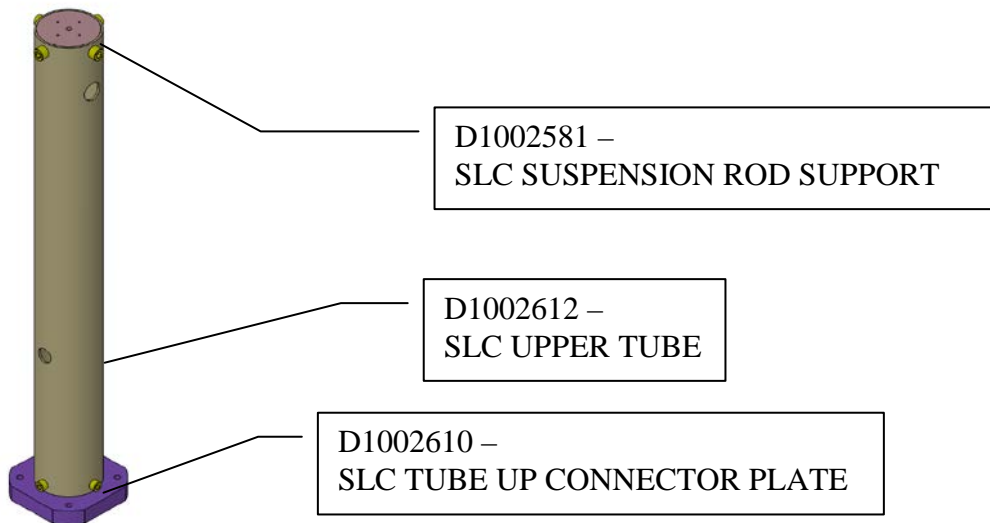

Figure 17: Baffle Tube Up Assembly
1. Insert D1000684 - SLC TUBE LOWER MOUNTING PLATE into D1001009 - ARM CAVITY BAFFLE LO TUBE, see Figure 17. Align with *larger* fastener holes.
2. Insert D1002618 - SLC TUBE LOWER CONNECTOR PLATE into D1001009 - ARM CAVITY BAFFLE LO TUBE, see Figure 17. Align with *smaller* fastener holes.